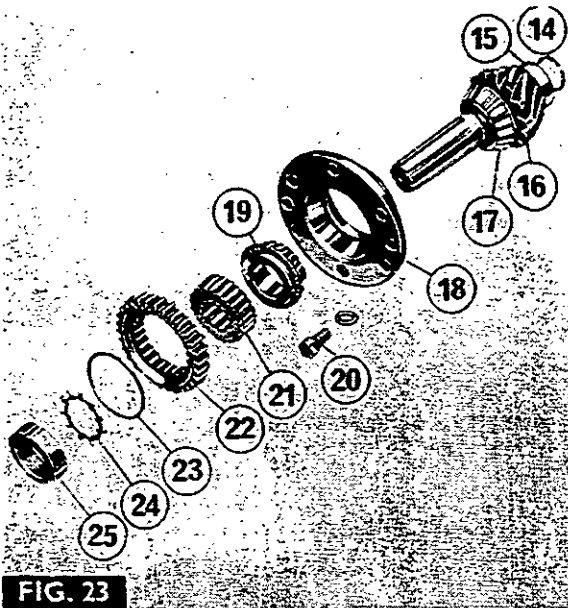

FIG. 23
2. Fig. 23. Release the snap ring (23), securing the ground speed gear (22) to the splined hub, then slide off the gear.
3. Remove the six bolts (20) and spring washers securing the pinion housing (18).
2. Fig. 23. Hold the pinion in a soft faced vice, release the tab washer (24), then unscrew the locking ring (25) using the 3150 'C' spanner. Remove the splined hub (21) and pull off the housing (18) complete with the front bearing cone (19).